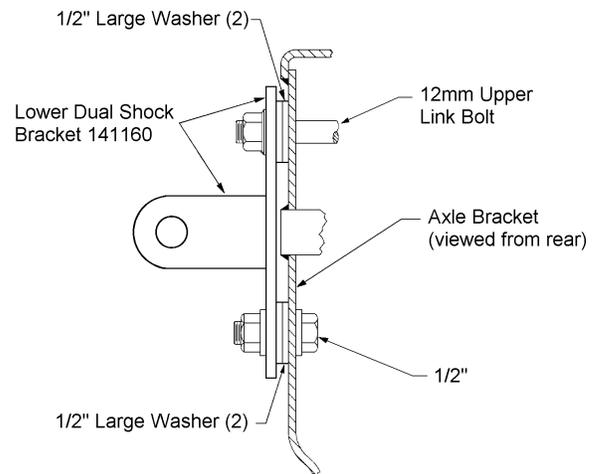

fig. 6
15. On the left side of the vehicle, place two large 1/2" washers from bag # 860043 over the protruding 12MM upper link bolt. Place the round hole of the left lower shock mount (#140160) over the M12 bolt, and large washers. **Refer to fig. 6.**
16. Rotate the mount so that the slotted hole is aligned with the unused factory bolt hole which is located about 4" below the upper link bolt. Place two more large 1/2" washers between the lower mount and the axle bracket and then pass a 1/2" X 1 3/4" bolt with a small 1/2" washer (both from bag 860043) through the slotted hole, large washers, and axle bracket. **Refer to fig. 6.**